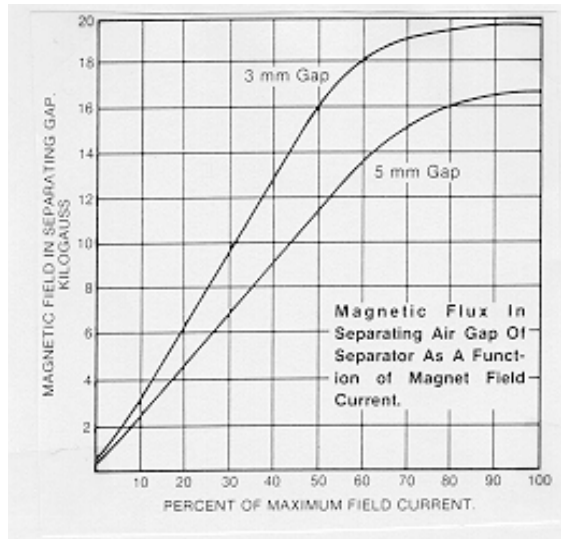

Figure 2: Magnetic Field vs Field Current in Magnet Gap
- Continuously variable *input coil current* (0-3 amperes) using solid-state D.C. rectification to an air-cooled magnet coil permits the magnetic field intensity of the separator to be adjustable as indicated in Figure 2 for varying gap settings.